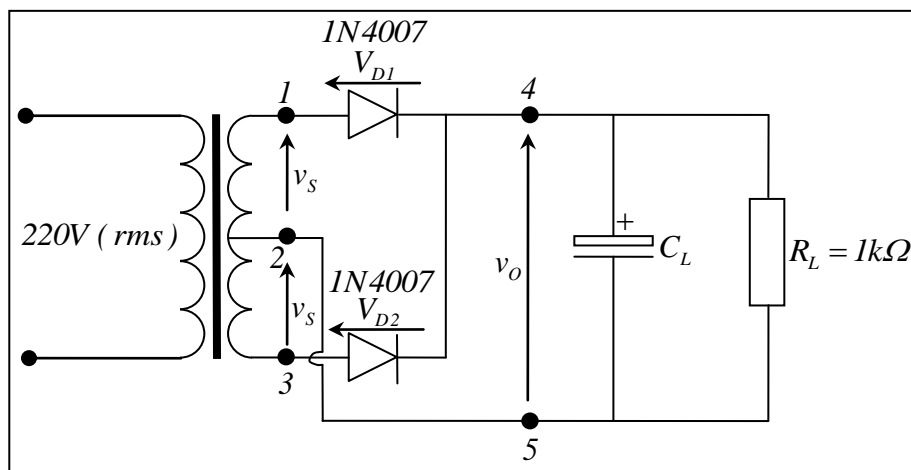

Figure 2. Full-wave rectifier circuit with center-taped transformer and RC filter
- Assemble the circuit without the capacitor as shown in Figure 2 and apply an AC voltage of $v_s(max) = 2X6V$ to terminals 1 and 3.
- Connect the capacitors $C_{L1} = 10\mu F$, $C_{L2} = 47\mu F$ and $C_{L3} = 100\mu F$ (Polarity must be correct) to terminals 4 and 5 (parallel to the load resistor) as in Figure 2 one after the other.